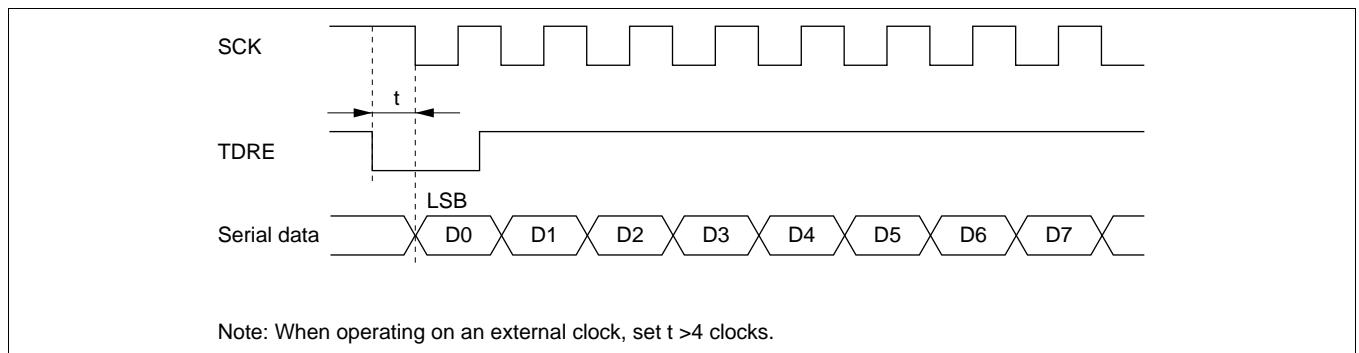

Figure 14-22 Example of Clocked Synchronous Transmission by DTC
- When an external clock source is used as the serial clock, the transmit clock should not be input until at least 5 φ clock cycles after TDR is updated by the DMA or DTC. Misoperation may occur if the transmit clock is input within 4 φ clocks after TDR is updated. (Figure 14-22)